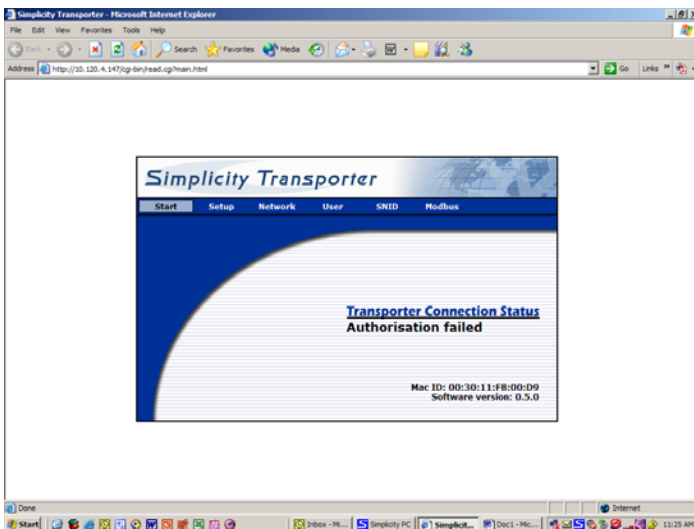
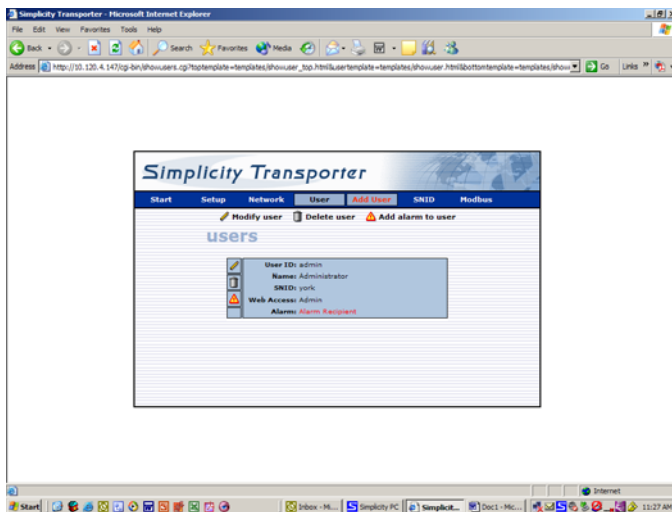

Figure 6
Figure 7
The screen in figure 6 will appear. Notice that the screen will read “Authorization Failed” This is normal and will change after the Transporter configuration is complete.
10. From the screen in figure 6, select the “User Tab”. You will then be taken to the screen shown in figure 7.